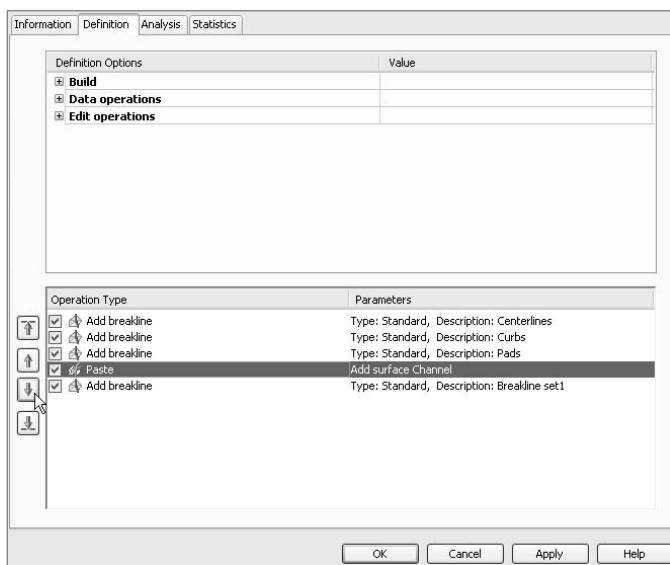

Figure 12.31
10. Switch to the Definition tab as shown in Figure 12.31. The operations that make up a surface are shown in the lower list box.